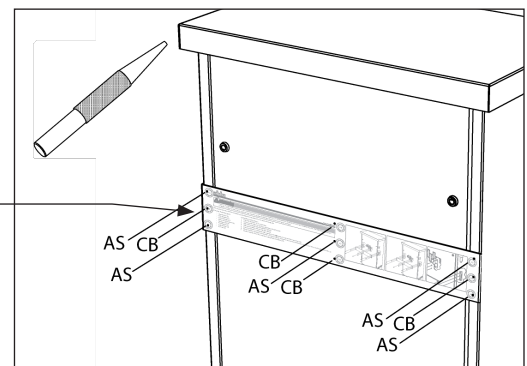

Fig. 7-3, Template Placement on Enclosure
1. Position and tape the template to the enclosure at the desired height for installing the security bar (see Fig. 7-2 and Fig. 7-3).